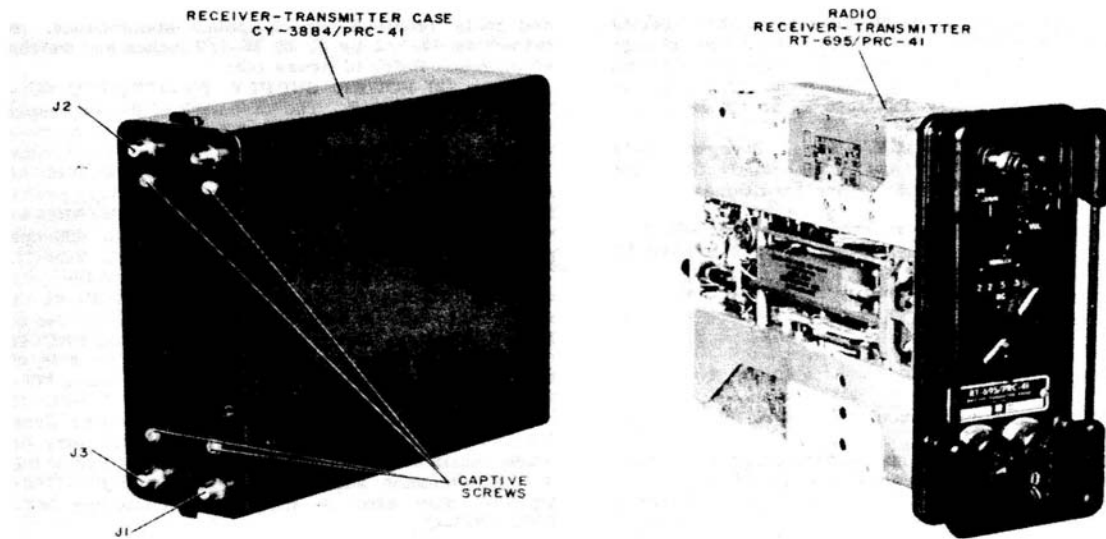

Figure 1-4. Radio Receiver-Transmitter RT-695/PRC-41, Receiver-Transmitter Case CY-3884/PRC-41 Displaced.
(2) RADIO RECEIVER-TRANSMITTER RT-695/ PRC-41. - Radio Receiver-Transmitter RT-695/PRC-41 consists of a main chassis with eight plug-in modules, a control panel, and a waterproof dust cover (Receiver-Transmitter Case CY-3884/PRC-41). Refer to figure 1-4. The modules are removable from the main chassis by loosening captive screws on each module. All electrical connections between the modules and the main chassis are made through multipin connectors on
(3) RECEIVER-TRANSMITTER CASE CY-3884/PRC-41. - Receiver-Transmitter Case CY-3884/PRC-41 is a dust cover for Radio Receiver-Transmitter RT-695/PRC-41. Refer to figure 1-4. The CY-3884/PRC-41 is secured to the RT-695/PRC-41 by four captive screws which are located at the rear of the CY-3884/PRC-41. With the CY-3884/PRC-41 in place on the RT-695/PRC-41, primary power is applied through pressure contacts located at the rear corners to the contacts centrally located on the inside rear of the CY-3884/PRC-41. The power is then available to the pressure contacts at the rear of the main chassis of the RT-695/PRC-41 and hence to the power distribution circuits of the RT-695/PRC-41.